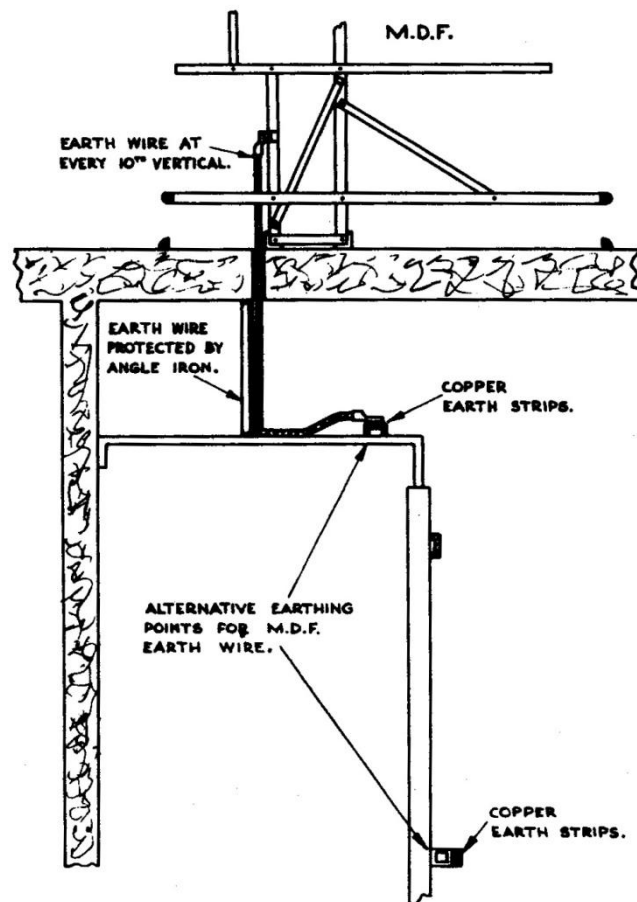

FIG. 37. CONNECTION BETWEEN M.D.F. AND C.T.F. EARTHING BARS WHERE CABLE WELL IS BELOW M.D.F.
Fit 1" x 1/4" bar below protector strips. Fig. 37.
Fit 2" x 1/4" bar - refer Fig. 37.
- (i) When a cable well is below the M.D.F. a 7/.036 bar copper wire must be run between the respective earthing bars at each tenth vertical (see Fig. 37).